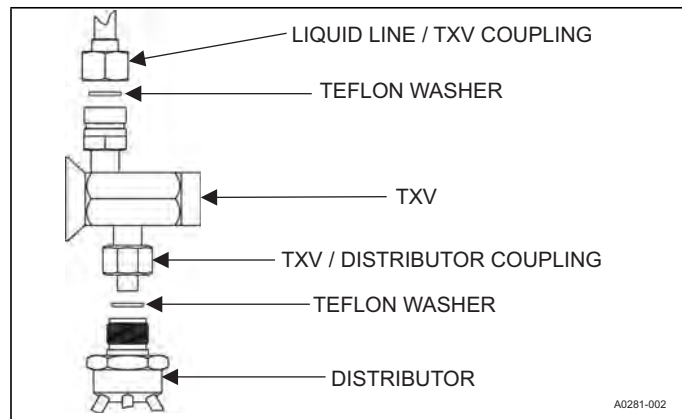

FIGURE 6: TXV Installation
4. Install the thermal expansion valve on the distributor assembly with supplied fittings. Ensure Teflon washer is seated in distributor. Hand tighten and turn an additional 1/4 turn to seal. Do not overtighten fittings. See Figure 6.